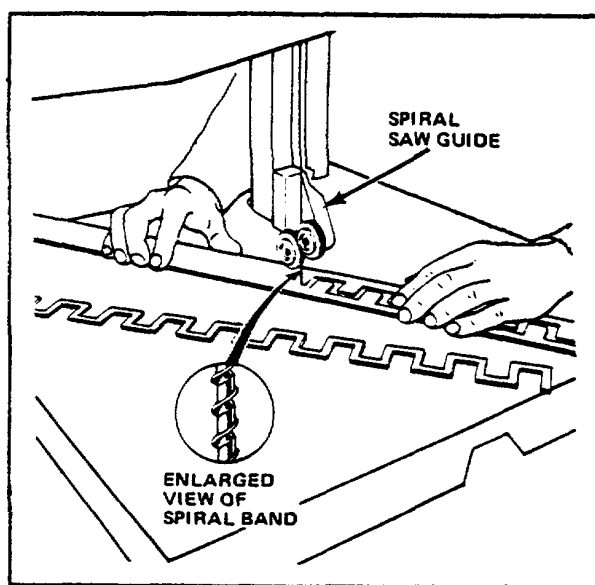

FIG. 26. SPIRAL SAW BAND GUIDES.
- (1) Install saw guides and band. Proper tension is same as for a 1/16-inch (1.6 mm) wide carbon saw band. See Fig. 26.
- (2) Adjust upper wheel tilt until band rides freely in roller grooves. Rollers have ball bearing mountings grooved for accurate band guidance.
- (3) Each guide has an eccentric shaft roller. Adjust eccentric by loosening guide block set screw. Turn eccentric with a screwdriver until band rides both roller groove bottoms. Band cutting edges should be facing down to table when band revolves.